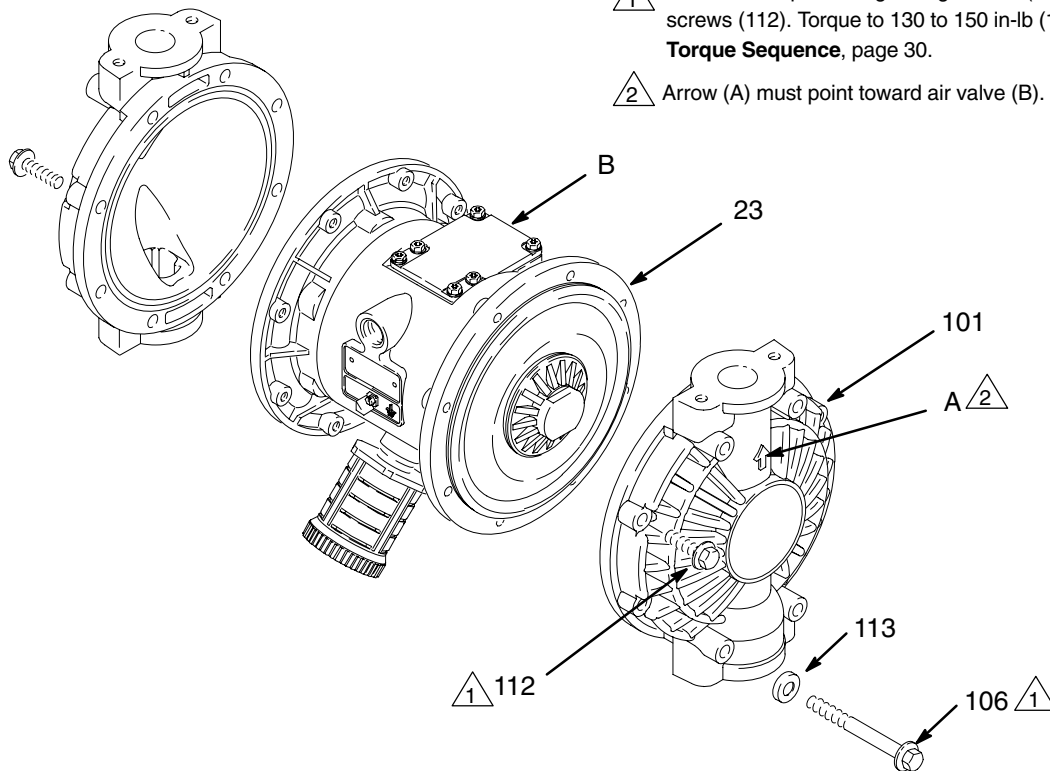

Fig. 12
3. Using a 10 mm socket wrench, remove the screws (106 and 112) holding the fluid covers (101) to the air covers (23). Pull the fluid covers (101) off the pump. See Fig. 12.
4. Apply medium-strength (blue) Loctite® or equivalent to the threads of the fluid-side plates (105). Hold one of the outer plates (105) with a wrench, and torque the other outer plate to 20 to 25 ft-lb (27 to 34 N-m) at 100 rpm maximum. **Do not over-torque.**
5. Align the fluid covers (101) and the center housing (1) so the arrows (A) on the covers face the same direction as the air valve (B). Secure the covers with the screws (106 and 112), handtight. Place the bolt caps (113*) on the longer screws (106), and install the longer screws in the top and bottom holes of the covers. See Fig. 12.
6. First, torque the longer screws (106) oppositely and evenly to 130 to 150 in-lb (14 to 17 N•m), using a 10 mm socket wrench. Then torque the shorter screws (112). See **Torque Sequence**, page 30.